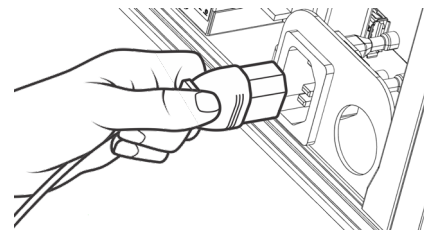

Figure 2
1. Plug the female end of the provided AC Power cord into the plug of the AC Power Bracket. (Figure 2).